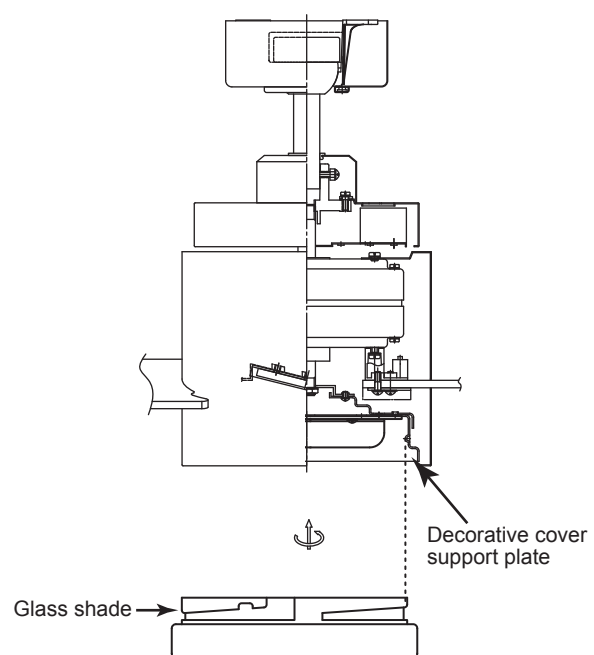

Figure 2
4. Raise glass shade up against the decorative cover support plate and secure it to fan by turning glass clockwise until snug. DO NOT OVERTIGHTEN. (Fig. 2)